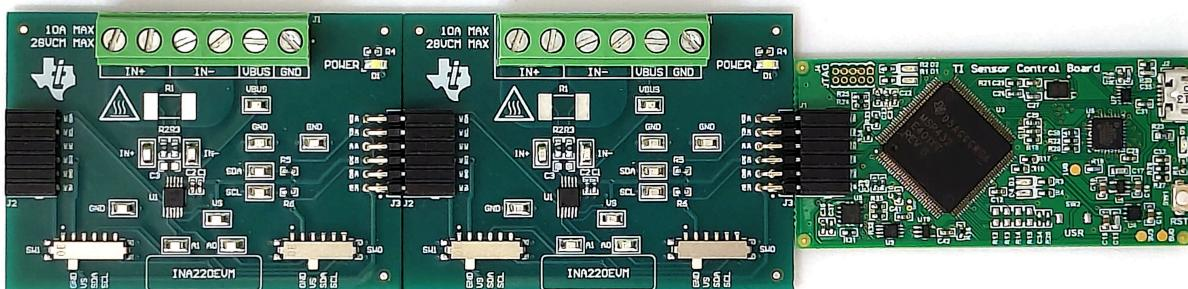

Figure 2-2. Multiple EVMs Connected to SCB Controller
- a. Refer to Figure 2-2 when connecting multiple EVMs of the same type together.
If using multiple EVMs, then connect them as shown in Figure 2-2. Make sure to use a different I₂C address for each device. The GUI only supports up to 4 EVMs total.